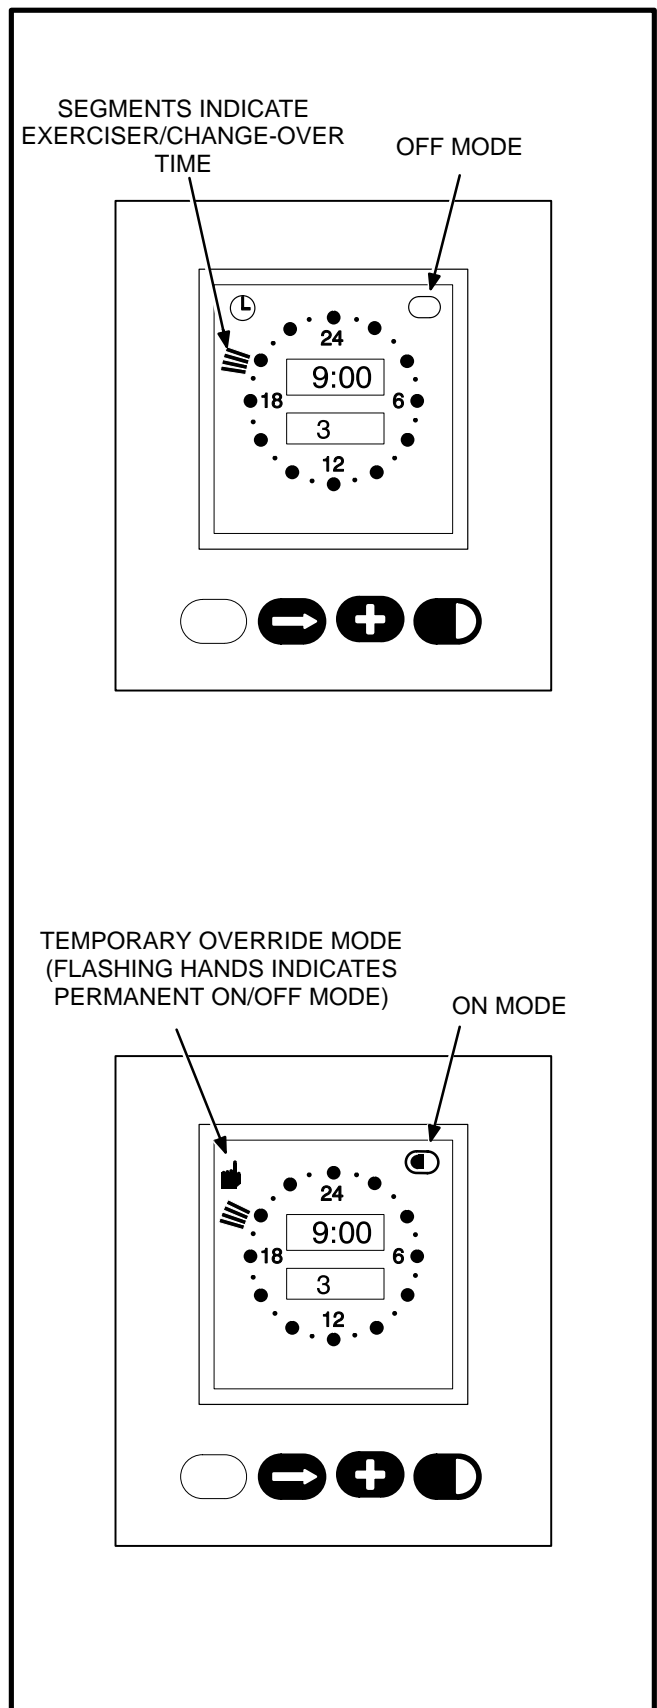

FIGURE 2. CLOCK ON/OFF MODE
3. Press the plus (+) button to increment the **Start** time of the exercise program. The display will show midnight (0:00). Note that by holding the (+) button down, the minutes will increment in 15 minute intervals. When the **Start** time is reached, press the set (D) button (On Mode is indicated, Figure 2).
Then increment the time with the plus (+) button to the desired **Stop** time. When the **Stop** time is reached, press the set (D) button (Off Mode is indicated, Figure 2).
Note that the exercise time is indicated by a band of segments illuminated around the outer ring of the clock from the start to the stop time (Figure 2).
During the exercise period, the ON mode is indicated in the ellipse in the upper right corner of the display (Figure 2).
3. Press the plus (+) button to increment the **Start** time of the change-over program. The display will show midnight (0:00). When the **Start** time is reached, press the set (■) button (On Mode is indicated, Figure 2).
Then increment the time with the plus (+) button to the desired **Stop** time. When the **Stop** time is reached, press the set (■) button (Off Mode is indicated, Figure 2).
Note that the change-over time is indicated by a segment illuminated around the outer ring of the clock from the start to the stop time (Figure 2). Note also that the genset will start and continue to run after the five minute ON time expires until the next program ON time.
During the change-over period, the ON mode is indicated in the ellipse in the upper right corner of the display (Figure 2).
With the normal source connected and available, pressing the set (■) button once will initiate an exercise test. A hand will be displayed in the upper left corner of the display and the On mode will be indicated inside the ellipse in upper right corner of the display (Figure 2). Pressing the set (■) button again will stop the exercise test and the ellipse will indicate the OFF mode.
To temporarily override an activated exercise program, *momentarily* press the set (■) button. A small hand will appear in the upper left corner of the display (Figure 2). The current program will be overridden and the clock will automatically set for the next program. Momentarily pressing the set (■) button again will return to the current program.
Changeover Applications: Pressing the set (■) button once will initiate a changeover. A hand will be displayed in the upper left corner of the display and the On mode will be indicated inside the ellipse in upper right corner of the display (Figure 2). Press the set (■) button again after the genset is running and the changeover will continue. The ellipse will indicate the OFF mode. Repeat this procedure to change back to the original genset.